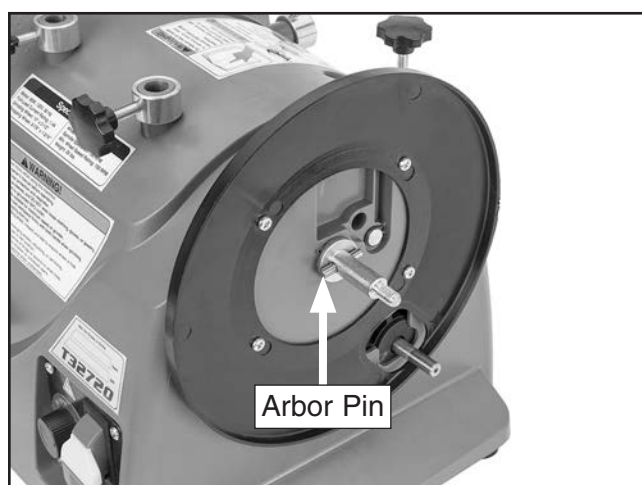

Figure 29. Arbor pin properly seated in spindle.
5. Mount new stopping wheel, taking care to keep arbor pin seated in spindle, as shown in **Figure 29**. Stopping wheel will not fully seat if pin is not in place.